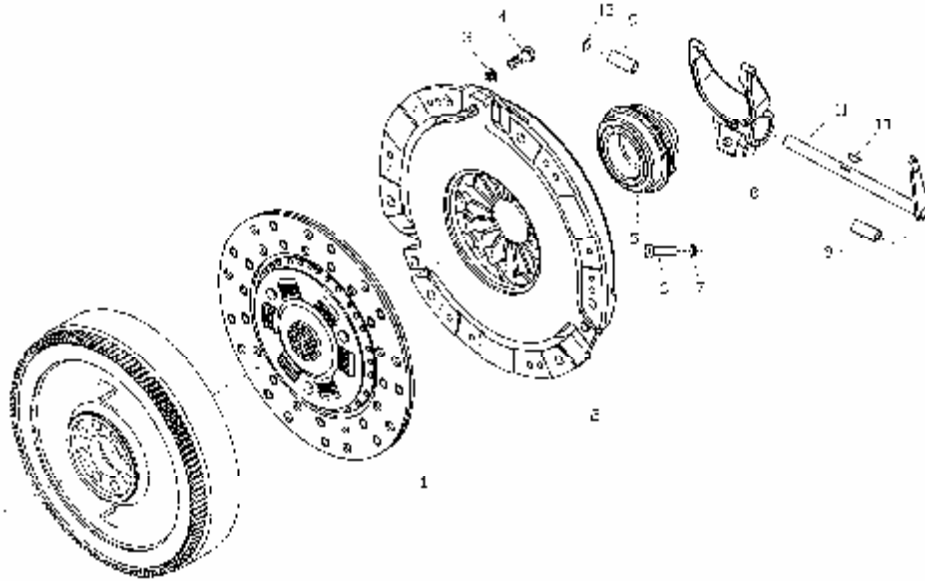

Figure 7-1-3 Clutch
Clutch pressure disc assembly releases away from driven plate assembly by means of releasing mechanism. When clutch pedal is depressed, the force presses onto small end of diaphragm spring via release fork (8) through release bearing assembly (5), thus detaches the clutch; while pedal is released, pressure disc assembly, by using the returning force of diaphragm spring, presses on driven plate assembly to attach the clutch. See figure 7-1-3.